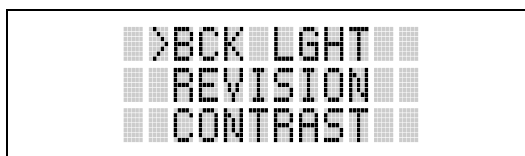

Figure 11-8: Menu Display
2. Upon entering the menu selection mode, Menu options will appear in the display (see Figure 11-8).